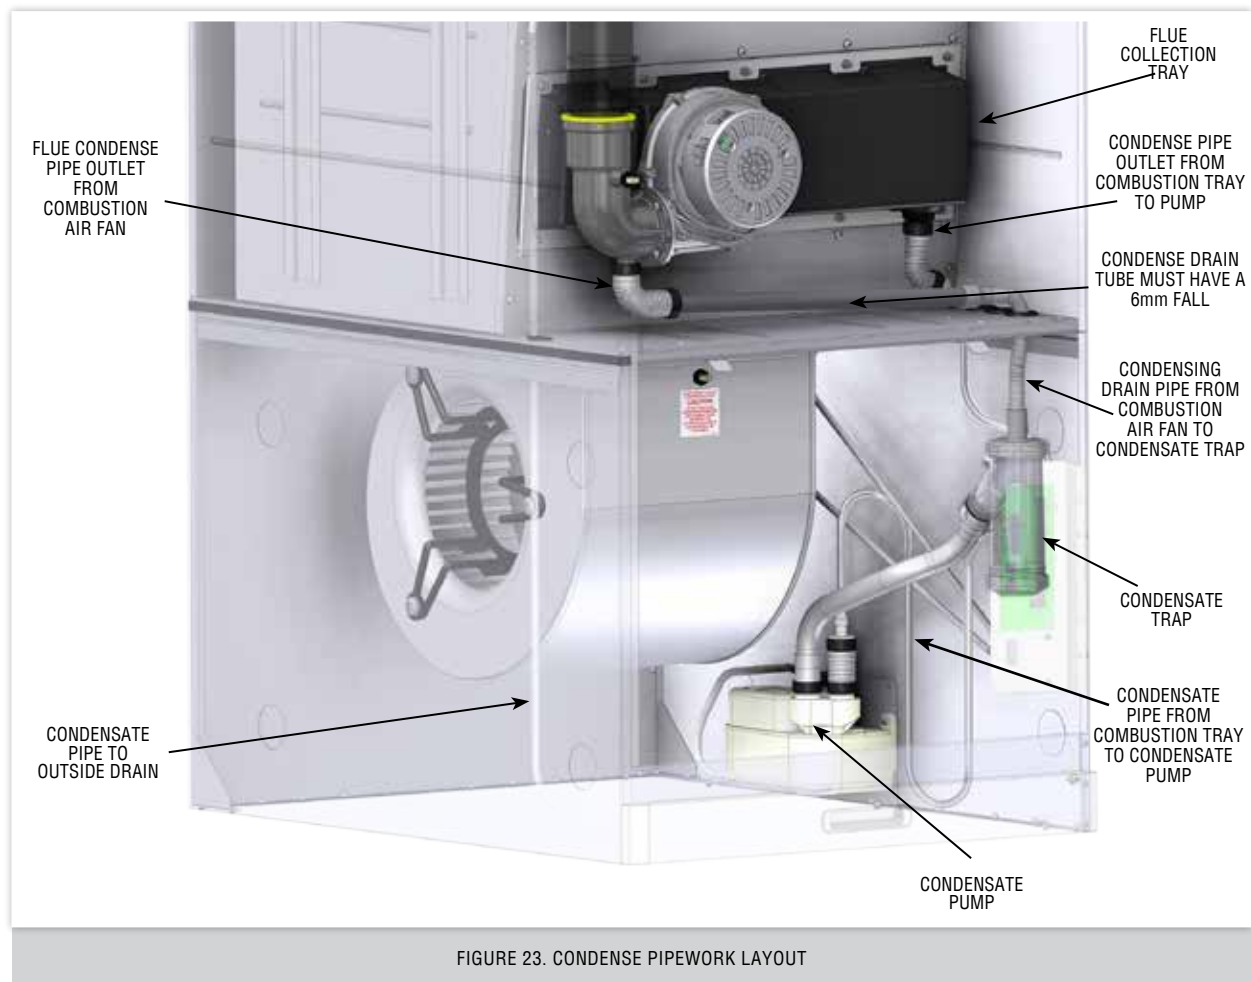

FIGURE 23. CONDENSE PIPEWORK LAYOUT
- 16.10.1 Refer to section 16.3. See Figure 23.